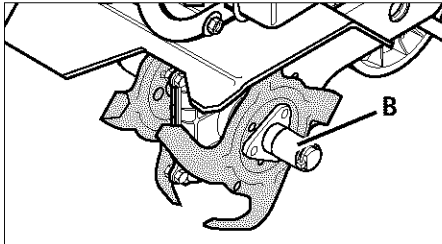

Figure 17: Narrow tilling tine positions.
4. Slide one of the long bushings (B, Figure 17), provided with the unit, onto the shaft. Insert the ring lock pin through the rounded side of the tine shaft and snap the ring down over the shaft (see *DETAIL - Ring Lock Pin*, Figure 4, in Section 2).